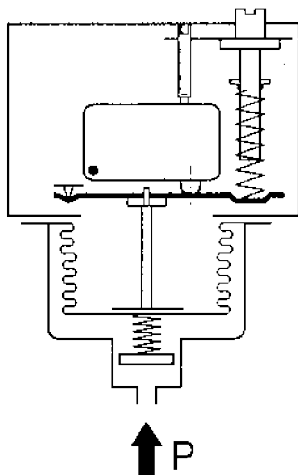

Fig. 2
- By certification of endurance testing with 2 million operating cycles during the component test (see Fig. 2)